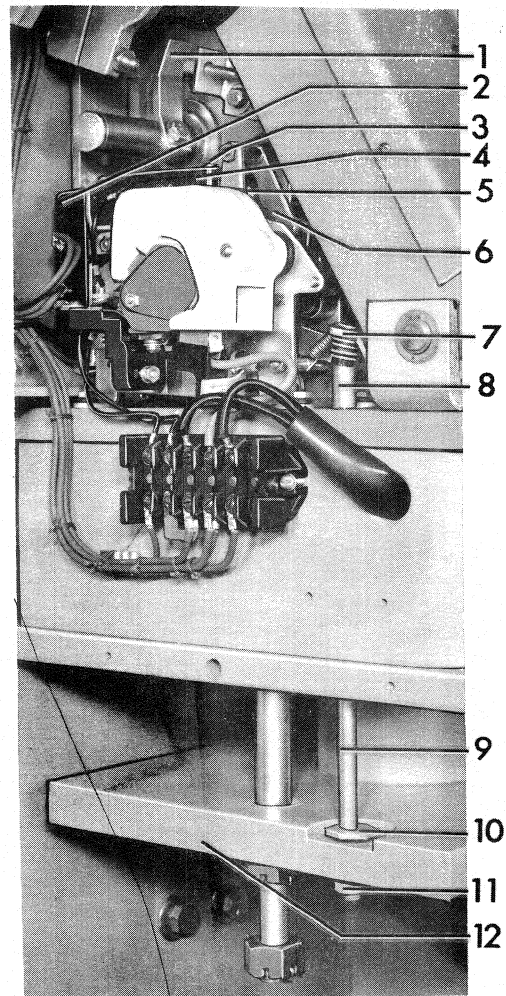

Figure 3 (8030928) Control Device
The closing sequence is initiated from a control switch mounted on the door of the metal-clad unit or at a remote operating station. Operation of the closing control switch energizes the pick-up coil of the control device, Figure 3, which is mounted on the operating mechanism and controls the closing operation of the breaker. As the control device closes, seal-in contacts shunt the
When the solenoid armature is near the end of its stroke the control device plunger (9) Figure 3 mechanically trips the main control device contacts, de-energizing the closing coil and allowing the armature to return by gravity to its original position. The control device plunger also mechanically trips the seal-in switch, de-energizing the control device coil if the closing control switch is not closed. If the closing control switch is held in the closed position throughout and after the breaker closing operation, the control device linkage will remain picked up and be unable to reset to prepare for another breaker closing operation. This arrangement insures that "pumping" of the breaker will not occur during a trip-free operation.